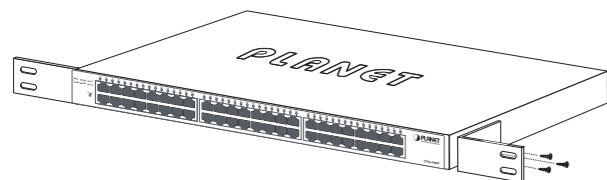

Figure 3: Attaching the brackets to the Gigabit Ethernet Switch
Step 2: Attach a rack-mount bracket to each side of the Switch with supplied screws attached to the package. Figure 3 shows how to attach brackets to one side of the Gigabit Ethernet Switch.